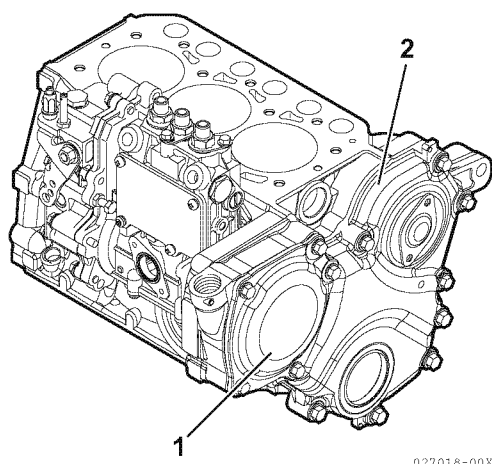

Figure 7-8
12. Remove the fuel injection pump drive gear access cover (**Figure 7-8, (1)**) from the gear case cover (**Figure 7-8, (2)**).